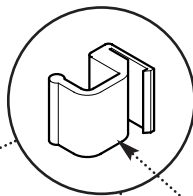
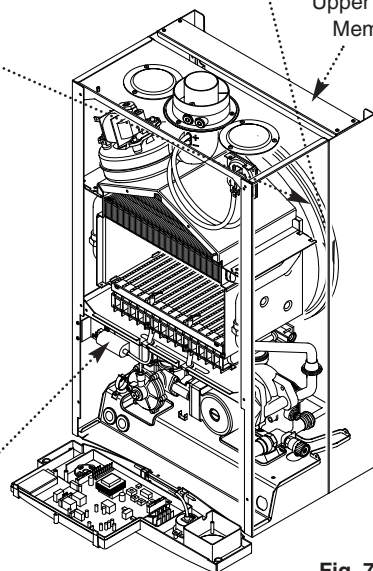

Fig. 75
Fig. 76
5. Undo the screws and remove the appliance upper cross member (Fig. 76). Slide the expansion vessel out of the retaining clips (Fig. 75).